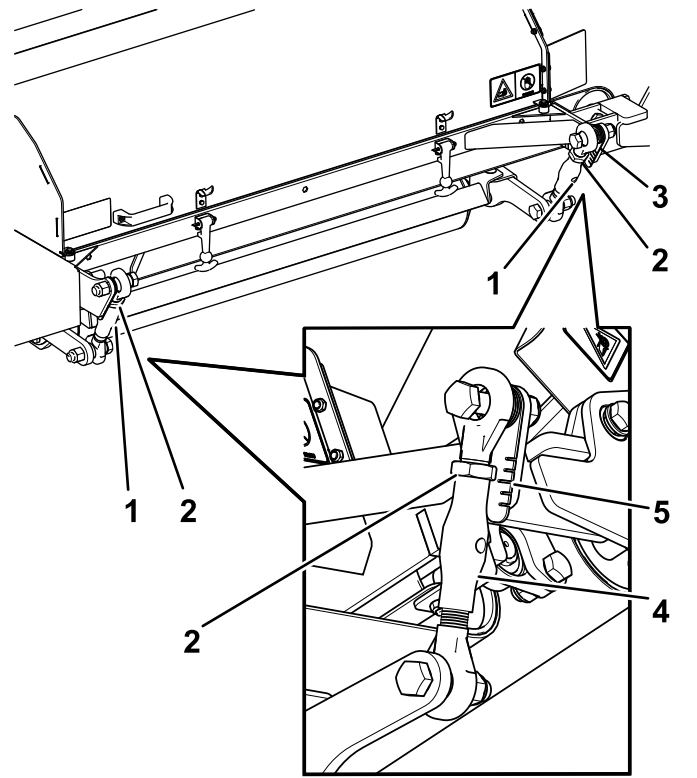

Figure 19
Ensure the rear roller is set to the long slot for cutting and scarifying (Figure 19).
- Adjust the rear links until they align with the long slot in the gauge (Figure 19).
- Tighten the jam nut on the top of each rear link (Figure 19).